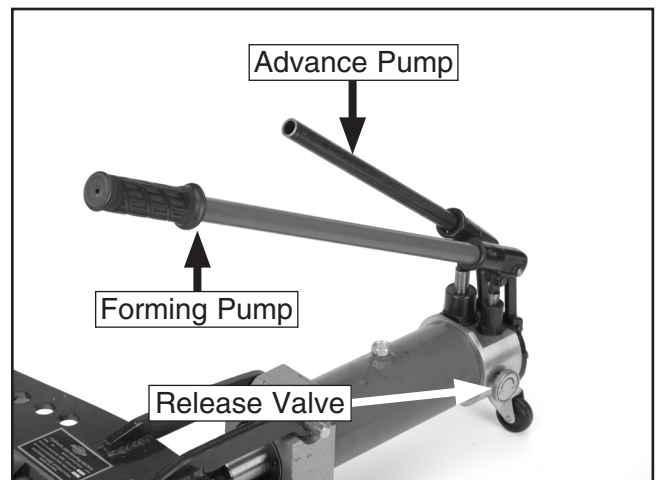

Figure 7. Operating pumps and release valve.
4. Use the advance pump (**Figure 7**) to quickly advance the die. Note—Only one handle is included with the Model G0585. The picture below shows a piece of pipe being used as a handle in the advance pump.